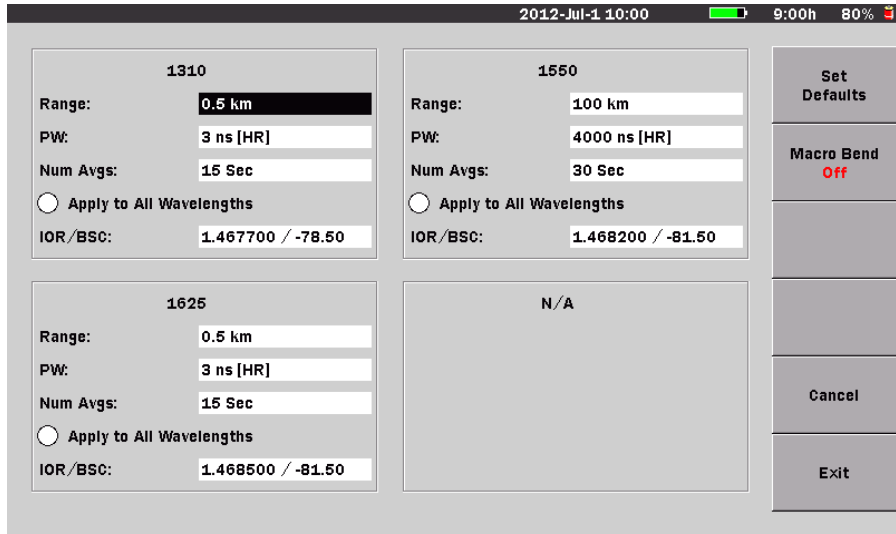

Figure 4-28: OTDR Parameters Screen
When the **Wavelength** softkey (**f3**) is set to “All”, the **f4** softkey legend changes to “Test Parameters”. Pressing **Test Parameters (f4)** displays the OTDR Parameters screen (see Figure 4-28 on page 4-78) which contains access for the following test parameter settings:
- With the Wavelength softkey (f3) set to **Wavelength All**, press **Test Parameters** (f4). The OTDR Parameters screen (see Figure 4-28 on page 4-78) appears.